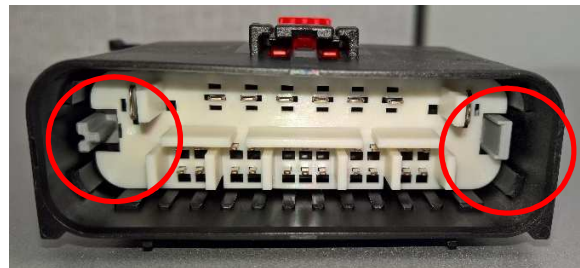

Figure 5
- After all terminals have been inserted, insert a small screwdriver or other suitable device as shown in Figure 4, to engage ISLs to the closed position by sliding to the right. Tool should be inserted as far down the tower of the ISL as possible. This can be verified by looking at the exposed towers on the ends of the ISL and comparing them to the connector housings, using Figure 5 as a reference.